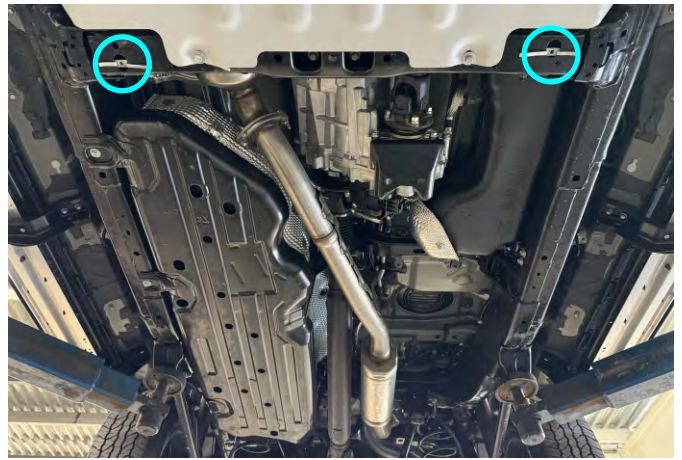

Fig. 2
2. Install insert nuts M8x70 (item C) as shown in fig. 2.